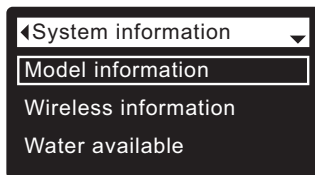

FIG. 70
3. Press the SELECT (O) button to display the System information menu (See Figure 70).
7. When finished viewing an information screen, press the SELECT (O) button. The display will go back to the System information menu (Figure 70). It will also exit automatically if no buttons are pressed for four minutes.